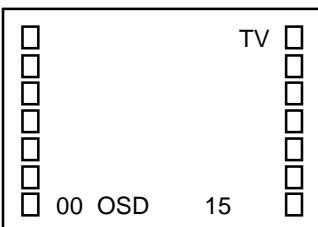

Fig. 1-1
1. In the condition of NO indication on the screen. Press the VOL. DOWN button on the set and the Channel button (9) on the remote control for more than 1 second to appear the adjustment mode on the screen as shown in **Fig. 1-1**.
3. Activate the adjustment mode display of **Fig. 1-1** and press the channel button (02) on the remote control to select "RF. AGC".
3. Activate the adjustment mode display of **Fig. 1-1** and press the channel button (01) on the remote control to select "CUT OFF".
4. Activate the adjustment mode display of **Fig. 1-1** and press the channel button (13) on the remote control to select "R. BIAS".